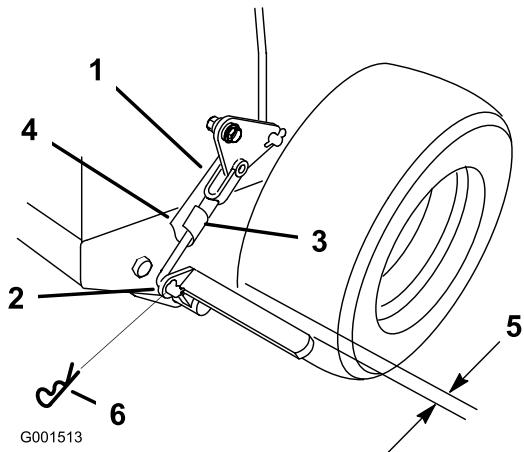

Figure 42
3. Remove the spring hair pin from the lower brake link (Figure 42).
4. Rotate the lower brake link yoke clockwise into the yoke to tighten the parking brake; rotate the brake link yoke counterclockwise out of the yoke out to loosen the parking brake (Figure 42).
**Note:** With the parking brake in the released position, the clearance between the tyre and the flat bar is approximately 6 mm (1/4 inch) (Figure 42).
5. Secure the lower link to the lower brake lever with the hair pin cotter and the clevis pin (Figure 42).